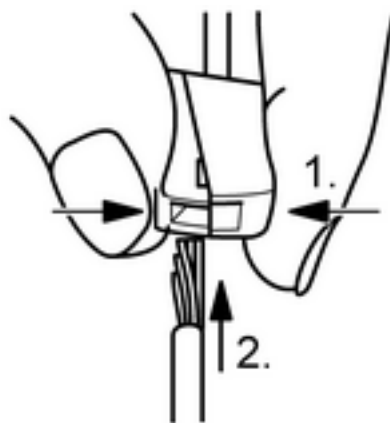

Figure 6: Connection of the fine-wire cable
- Push the terminal together on the side with the square opening and connect a fine-wire cable (figure 6).